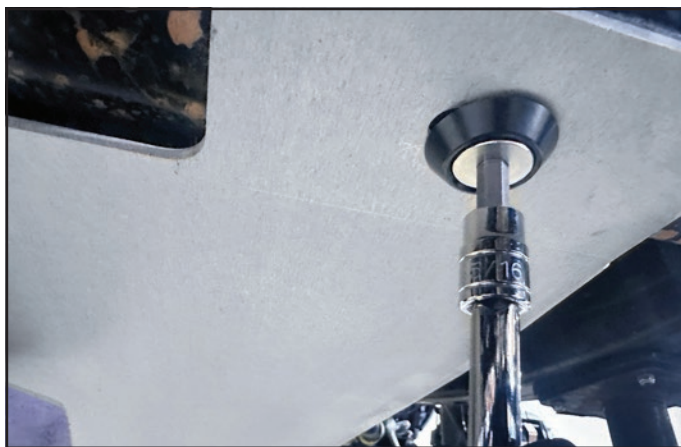

FIG. 3
5. Hold the DIFF SKID PLATE in position with the help of a jack stand. Install the 8mm flat head socket head screw and 8mm countersunk washer with a 5mm hex bit as shown. Do not fully tighten screws down when installing Trans skid plate until the skid plate is installed. [FIG. 3]